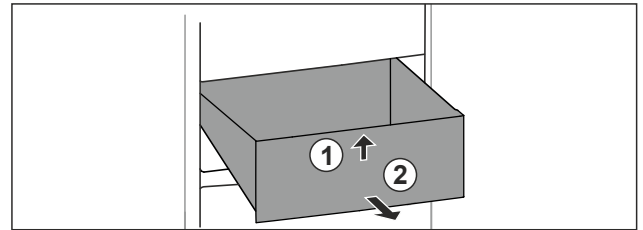

Fig. 105
- ▶ Lift up drawer at the front. Fig. 105 (1).
- ▶ Remove drawer to the front. Fig. 105 (2).